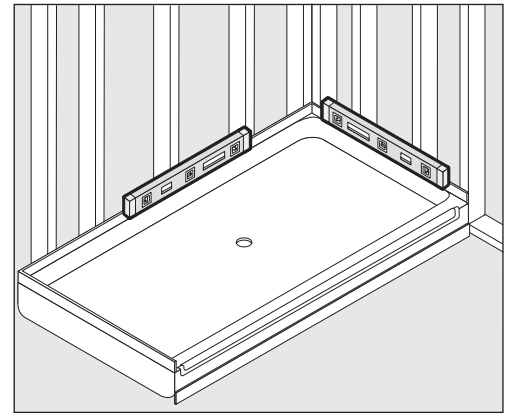

FIGURE 1. Check to assure base is level.
- Trial fit base in prepared alcove. With base sitting flat on floor, check with level on top of base. Base should be level from front-to-back and side-to-side (**Fig 1**). If base is not level, remove base and level floor using leveling compound.